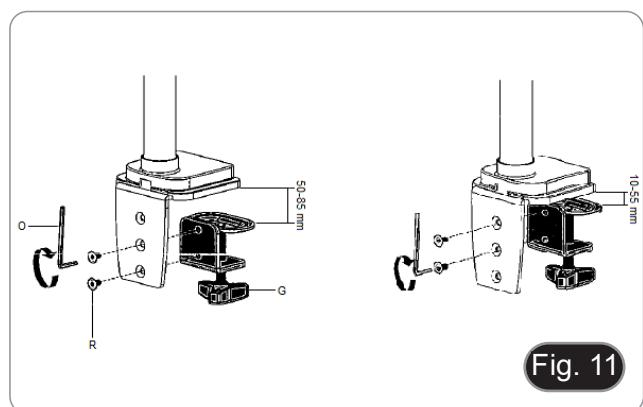

Fig. 11
4. Attach the clamp (G) to the clamp holder (F) using the two screws (R). (Fig. 11)
- **NOTE:** Depending on the thickness of the table, the clamp (G) can be mounted in two different positions.